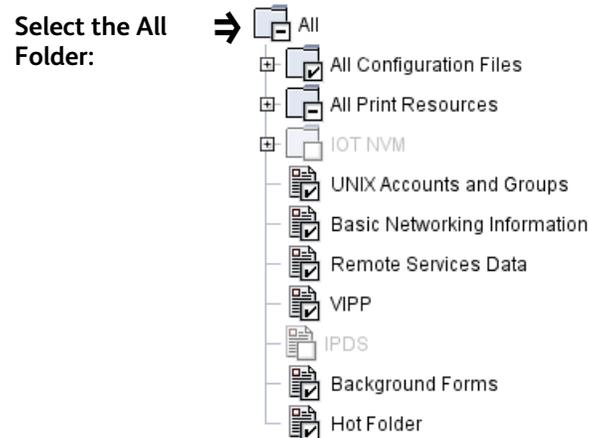

Figure 5.6 – Backup Folder Selection
- __3. In the File Selection window, select the **[All]** folder at the top level (Figure 5.6).